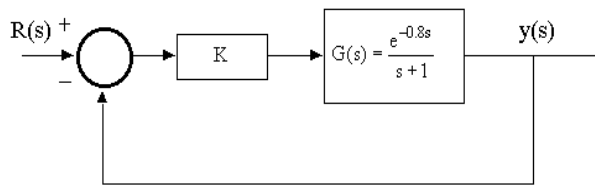

Fig. 8
Q.33 Use the Nyquist criterion to determine the range of values of $K > 0$ for the stability of the system in Fig. 8. (9)